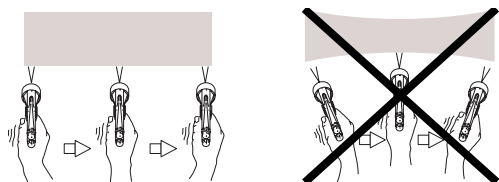

FIG. 4
- Keep gun perpendicular to surface and consistent distance of about 6-8 inches (150-200 mm). Do not angle the gun as you spray. FIG. 4.